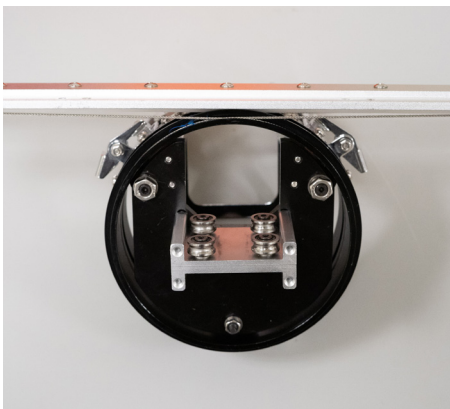

Figure 37
4. The cap driver is equipped with four small wheels that slide onto the rail underneath the sewing arm of the machine. Position the cap driver in line with the railing, making sure all the wheels are aligned. **See Figure 37.**